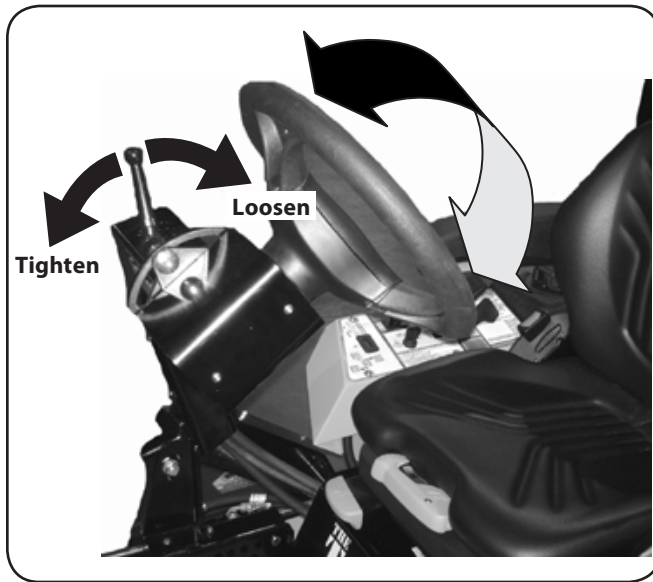

Figure 3-10
1. Pull back on the adjustment lock lever to loosen the steering wheel tilt. See Fig. 3-10.